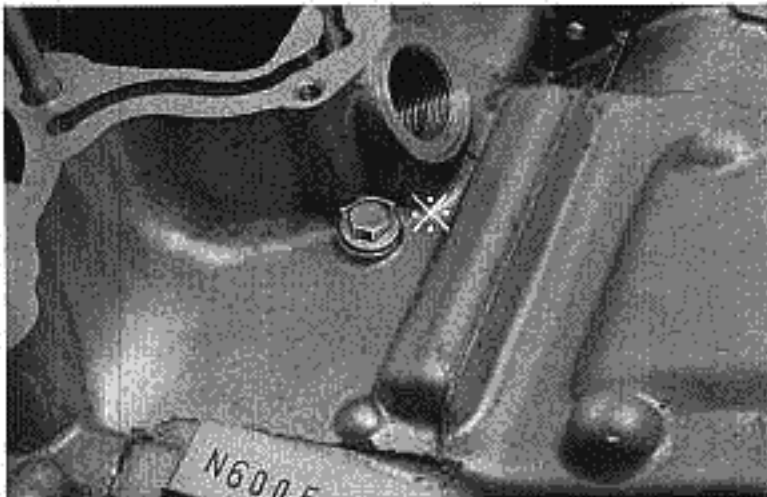

Fig. 4-27
1. Remove the bolt in the upper crankcase located to the left of the camshaft drive chain tensioner. (Fig. 4-27)
\* For five of the 6mm bolts holding the lower crankcase, located at the transmission, use flat washers. Exercise care not to misinstall these washers. (Figs. 4-27, 28)